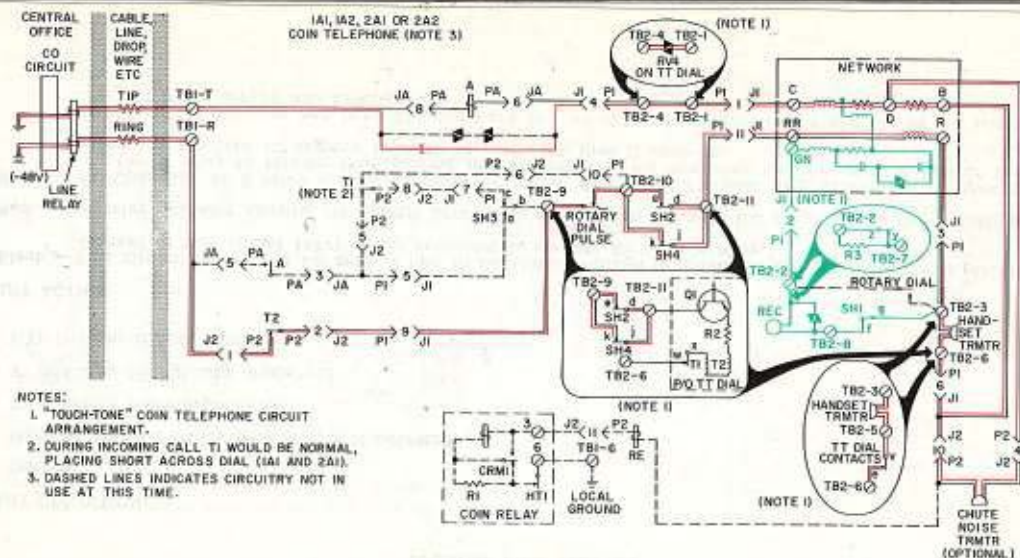

Fig. 21 — Dialing, Talking, and Listening Circuits
- Fig. 21 — Dialing, Talking, and Listening Circuits
LEGEND FOR FIG. 21